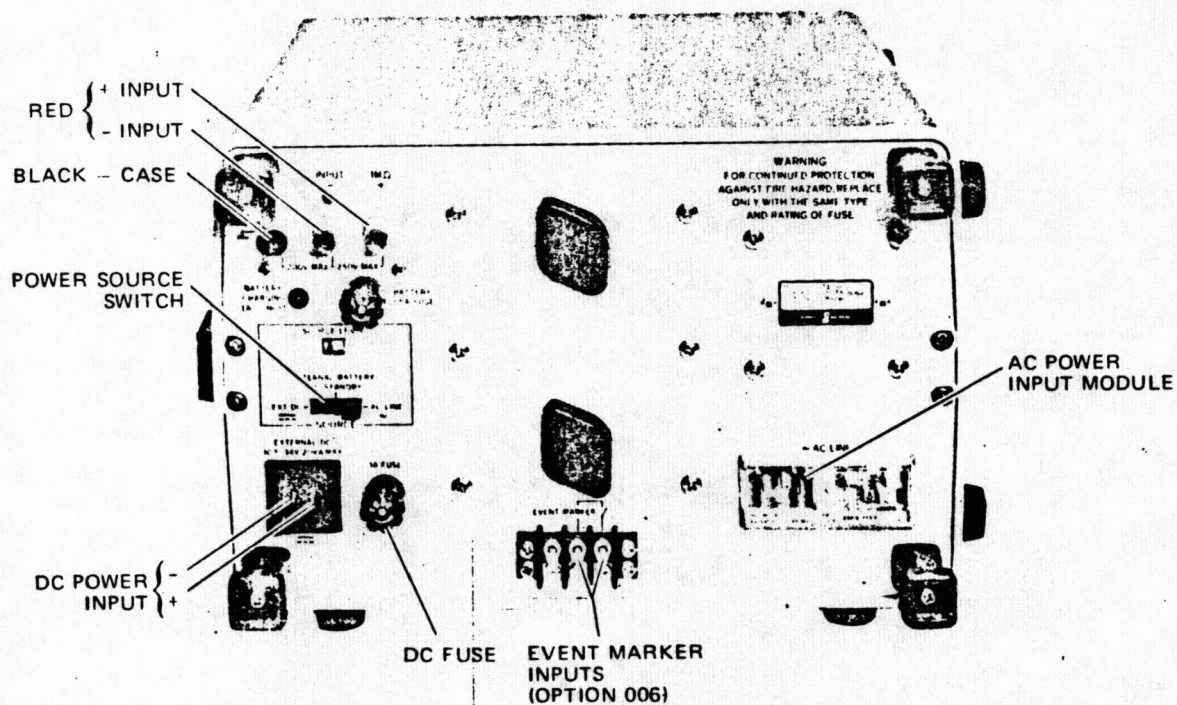

Figure 2-6. System Connections
- b. If Option 006 is installed, make event marker control signal connection into recorder through the terminal strip on the rear panel (see Figure 2-6, Detail B).
The right hand terminal (see Figure 2-6, Detail B) on the event marker terminal strip and the negative terminal of the EXTERNAL DC connector are connected to DC power ground (PGD) within the instrument. The external event marker control unit must be isolated from ground to avoid loops and possible short circuits when using DC power sources with positive ground (negative DC supplies).
- c. AC or DC operation is selected by the SOURCE switch (see Figure 2-6, Detail B).
2-18. A DC power connector (HP Part Number 1251-2614) is supplied with the accessory kit. For DC operation, wire the connector as shown in Figure 2-9 and plug it into the recorder EXTERNAL DC input (see Figure 2-6).